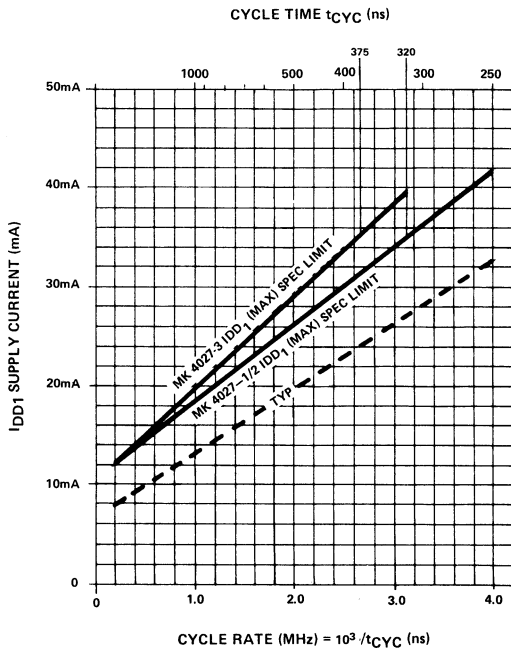

Figure 1. Maximum I_{DD1} versus cycle rate for device operation at extended frequencies.
- Current is proportional to cycle rate. $I_{DD1}(\text{max})$ is measured at the cycle rate specified by $t_{RC}(\text{min})$. See figure 1 for I_{DD1} limits at other cycle rates.